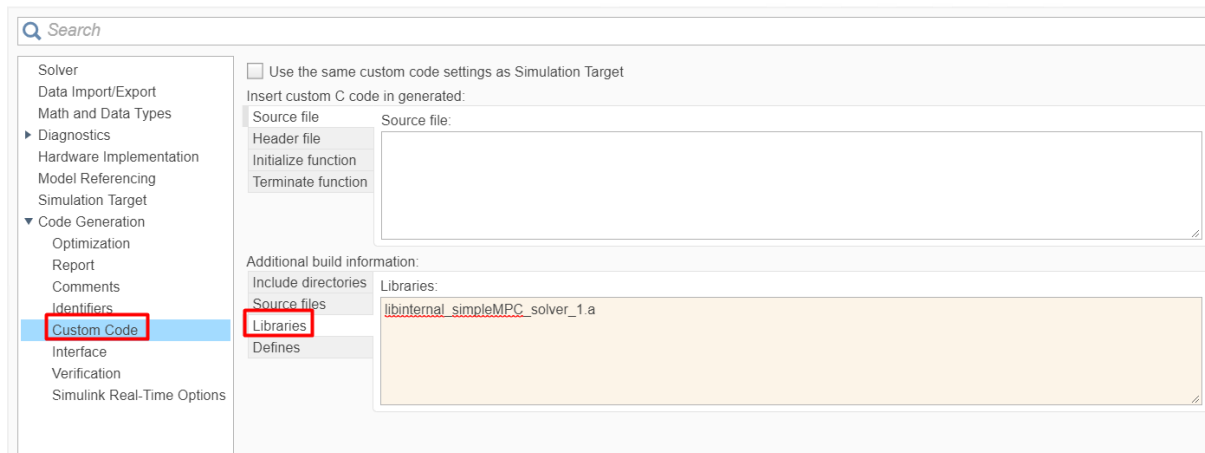

Figure 13.112: Add the libraries used for the code generation.
11. (Figure 13.112) In the “Code Generation/Custom Code” tab, add the library file: